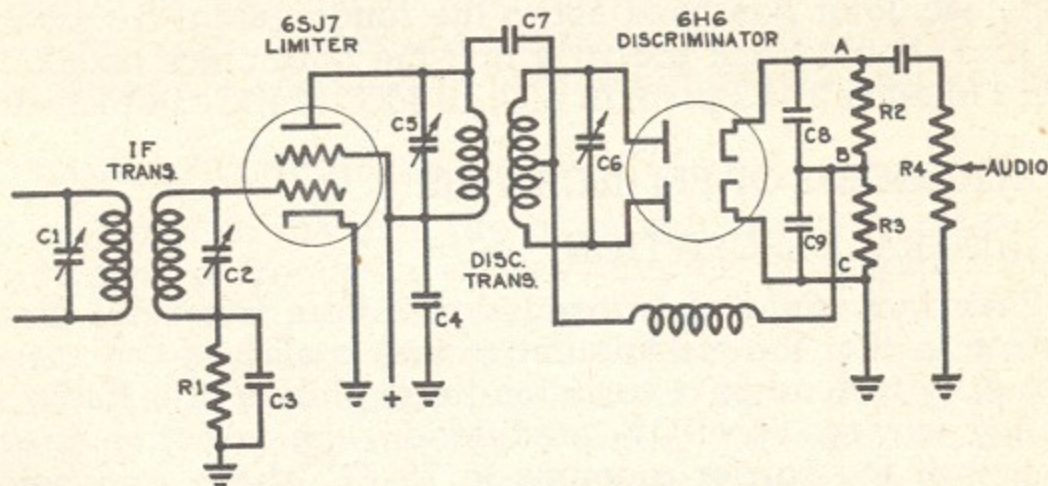

Figure 4 Simplified Circuit of FM Limiter and Discriminator
An FM receiver contains the customary RF, oscillator and IF stages. In some receivers, however, these are broadly tuned in order to pass the band of ± 75 KC. This is usually accomplished by overcoupling, resistance loading, or a combination of both. In other cases RF and IF transformers with normal characteristics are used. In addition, an FM receiver contains a limiter and discriminator. The purpose of the limiter is to cut off any amplitude modulated signals above the level of the carrier that may find their way into the circuit. Included in these are man-made electrical interference and static. The discriminator stage converts the frequency variation of the carrier into audio signals. A typical limiter and discriminator circuit is shown in Figure 4. If the manufacturer's alignment instructions are available, they should be followed, but in the absence of such instructions, the general procedure is as follows:
c. Connect a high resistance DC voltmeter such as the Simpson 260 or preferably a vacuum tube voltmeter such as the Simpson 266 across the load resistors of the discriminator, points A and C in Figure 4.
e. Adjust the secondary condenser shown at C6 in Figure 4 for minimum indication on the meter. This should result in zero reading across A and C. If more than one position is found for C6, use the one which causes an increase in the reading when the condenser is detuned slightly in either direction.
a. Connect a micro-ammeter in series with the limiter grid resistor shown as R1 in Figure 4. A Model 260 can be used or if a vacuum tube voltmeter is available, it can be con-